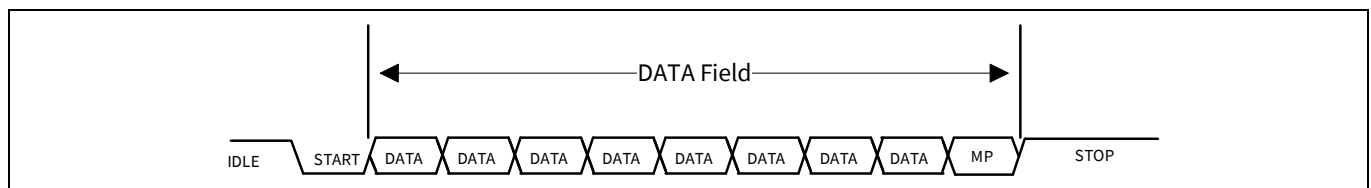

Figure 16-21. UART MP address and data frame
- Using 9-bit data field, with the ninth bit as address/data flag (MP bit). When set high, it indicates an address byte; when set low it indicates a data byte. A data frame is illustrated in Figure 16-21.